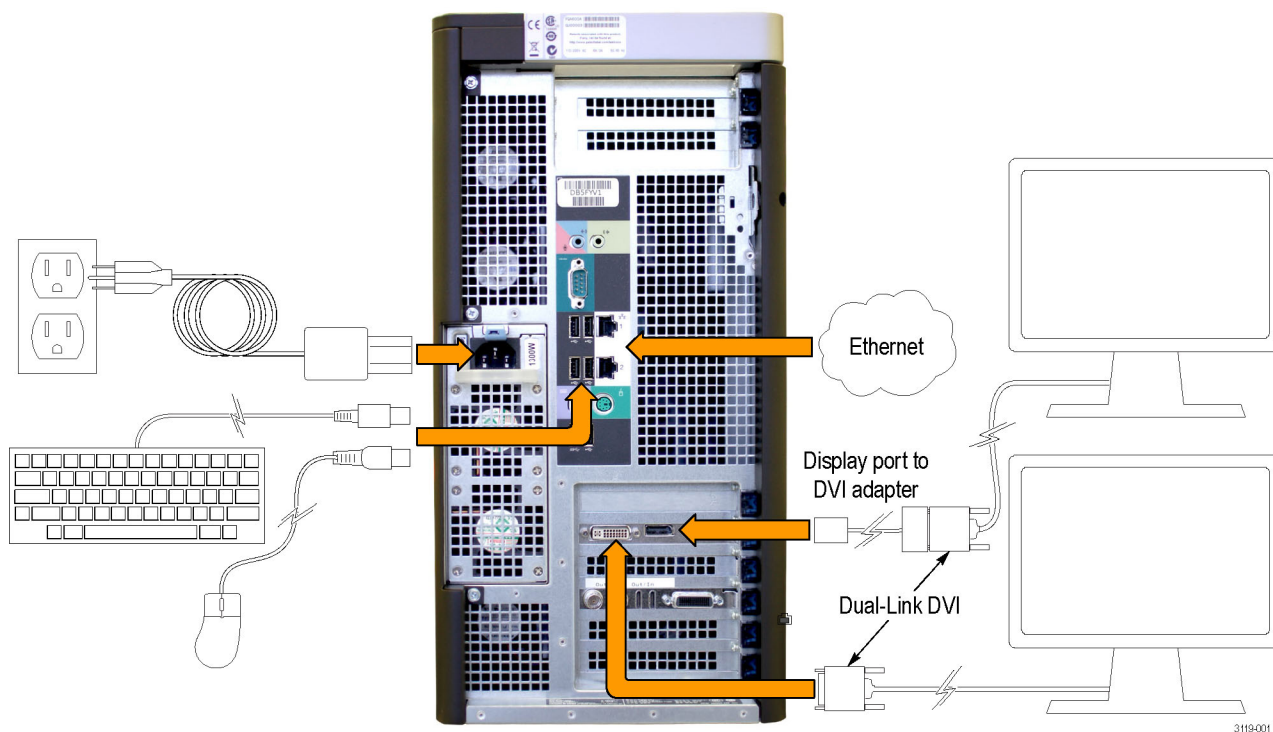

Figure 1: PQA600A system connections
1. Make the following system connections to the analyzer (See Figure 1.):